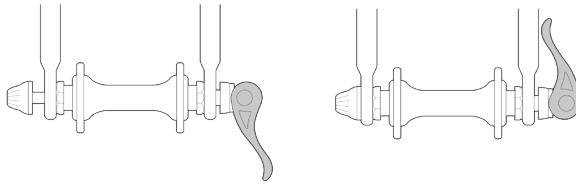
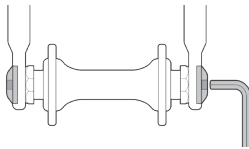
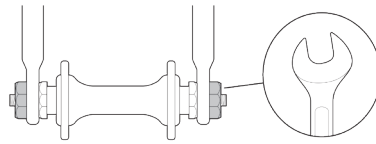
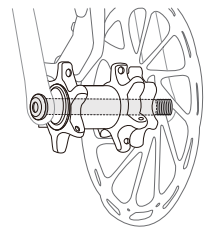

Figure 5
Figure 6
Figure 7
Figure 8
There are a few different methods to secure wheels to the frame. The traditional way which still applied on rim brake bikes (see Figure 5), Quick release skewer (QR). Can be found on commuter or lifestyle bikes (see Figure 6), Skewer and Axle nut (see Figure 7). The modern way on most disc-brake bikes (see Figure 8), Thru-axle.